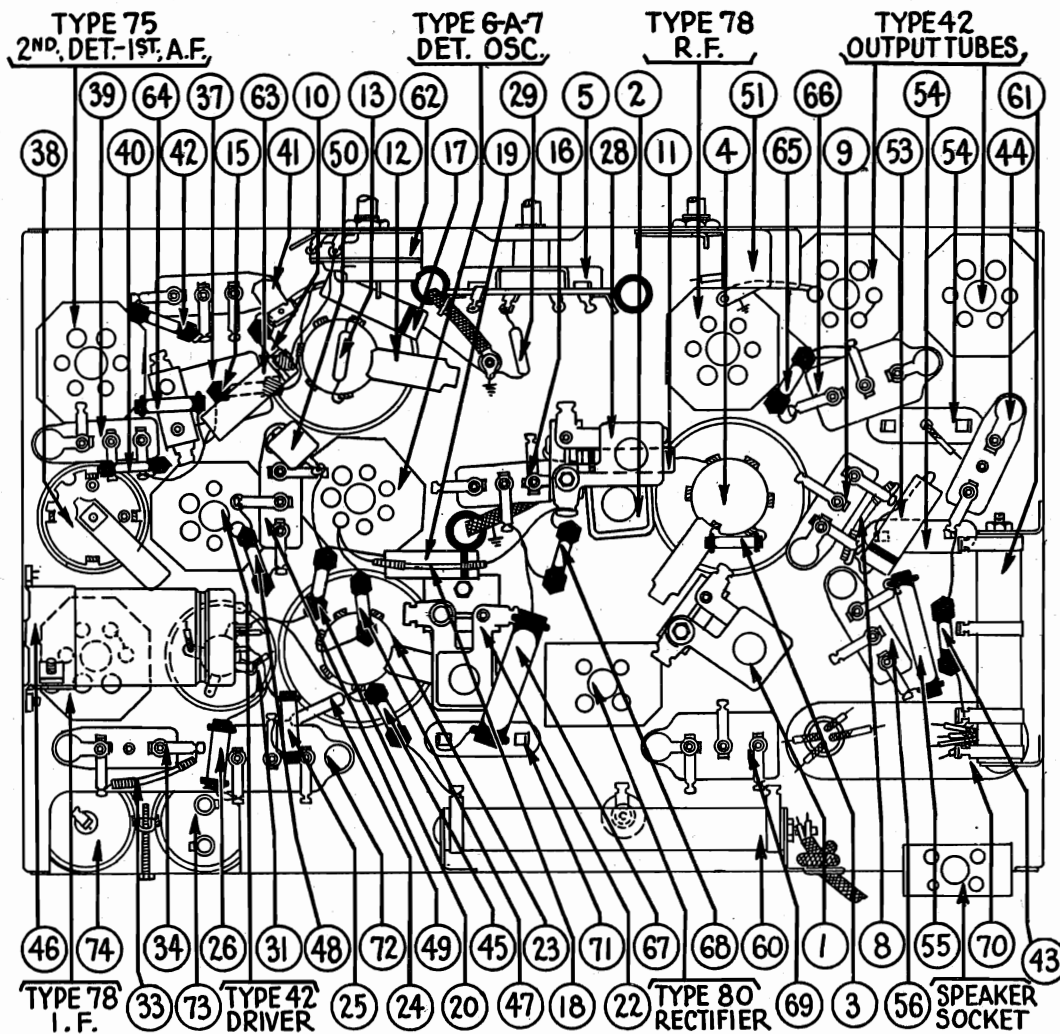

Fig. 4. Base View
*See Note below Fig. 4. Note: Part ⑦② is as shown above only in early production. In later production this part is incorporated as part of ⑦③, not visible from below.